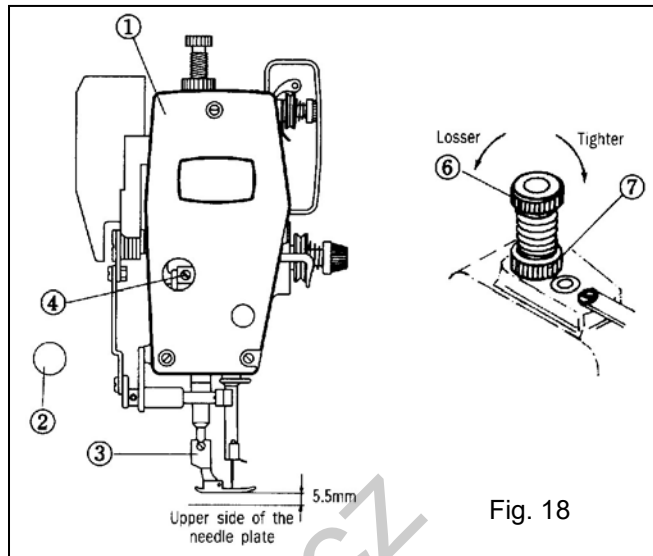

Fig. 18
A. AS is Fig.18, remove the rubber plug (2) in the face plate and place the presser foot (3) on the needle plate. Then, loosen the presser bar fixing screw (4) and adjust the height of the presser bar. The presser foot lifter (3) will fall when the presser bar is lifted and rise when the presser bar is moved down. Move the presser foot lifter (5) manually to place the bottom face of the presser foot 5,5 mm above the top face of the needle plate and tighten the presser bar fixing screws firmly.
B. The tension of the presser foot will grow stronger when the tension adjusting screw (6) is turned clockwise and turned clockwise and weaker when turned counterclockwise. Make sure to screw in the fixing nut (1) after adjustment. (Fig.18)
C. Loosen set screw (1) and adjust the presser bar height or the angle of the presser foot. After adjustment, securely tighten the setscrew.